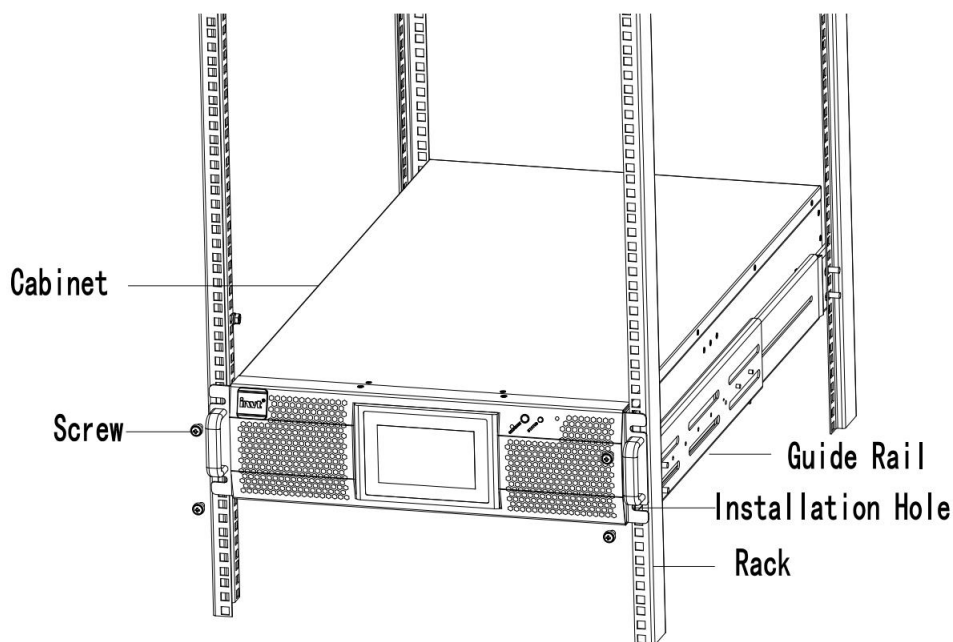

Fig.3-3 Rack Mounted Installation
(2)Put the UPS and battery cabinet on the guide rail, fix the units to the service rack, shown as Fig.3-3.